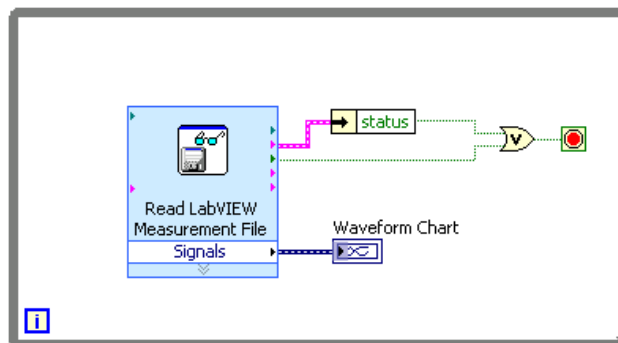

Figure 10.13
1. Build the block diagram shown in Figure 10.13.